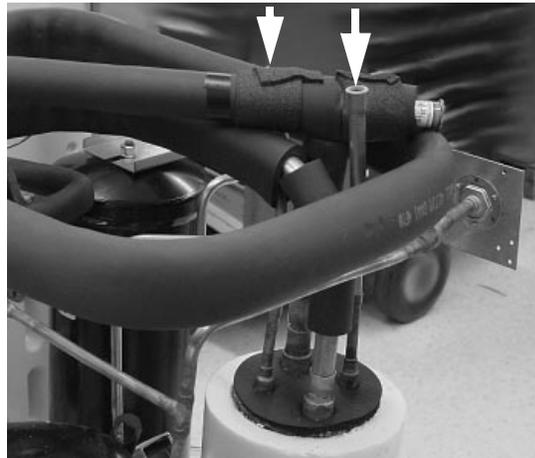

Figure 38.
38. Pinch off and braze shut the charging ports behind the Aeroquip fittings (Figure 38).